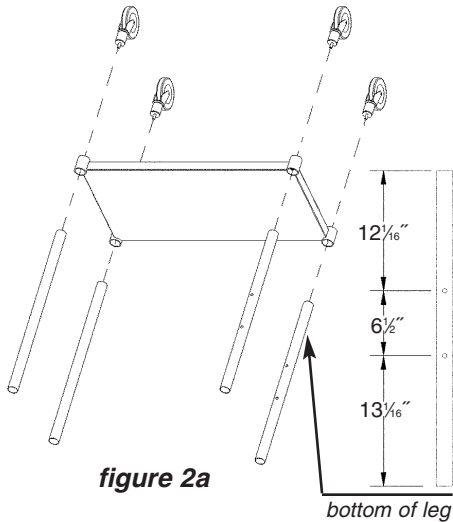

figure 2a
- (2-a) Insert legs equally through undershelf gussets from top as illustrated, *see figure 2a and 2b.* Ensure legs pass through undershelf equally. With the holes in multi-wrench aligned with the undershelf corner gusset top and bottom edges, align bottom edge of multi-wrench with bottom of leg. *See figure 2c.*
- (2-b) Thread a setscrew (4) into each undershelf corner gusset, and gently tighten with provided allen wrench finger-tight.